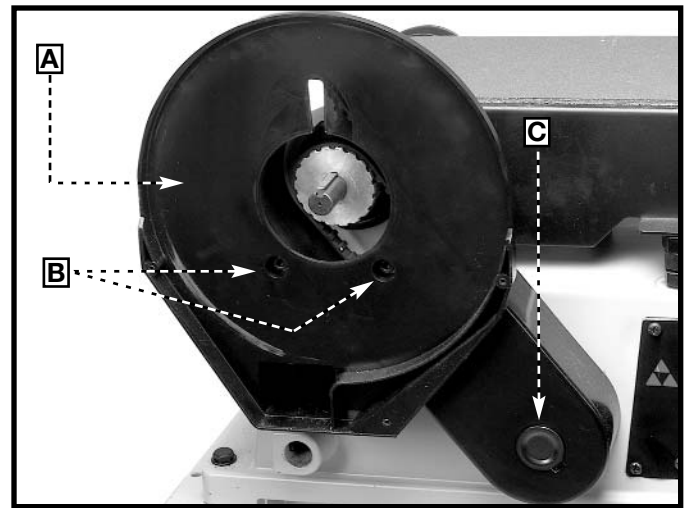

Fig. 8
Place an M6.4 lockwasher and an M6.4 flat washer in that order on two M6 x 55mm hex socket head screws (B), and attach the belt and pulley guard (A) Fig. 8 to the machine. **NOTE:** Install the plug (C) in the guard.